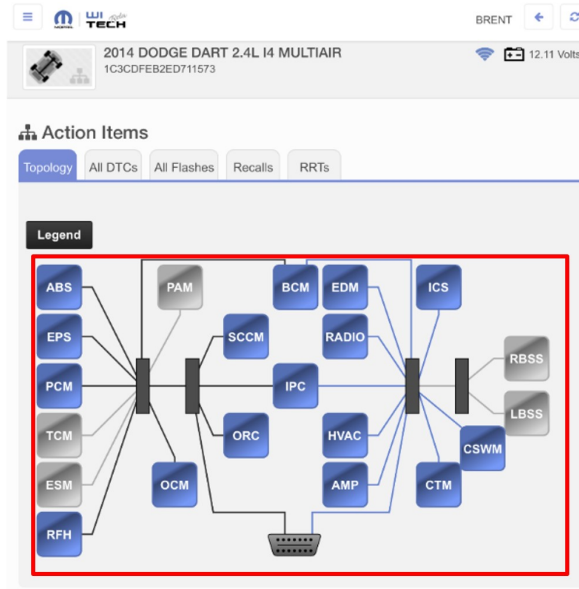

Fig. 4
8. From the “Topology” tab, select the “TBM” module icon (Fig. 4) .